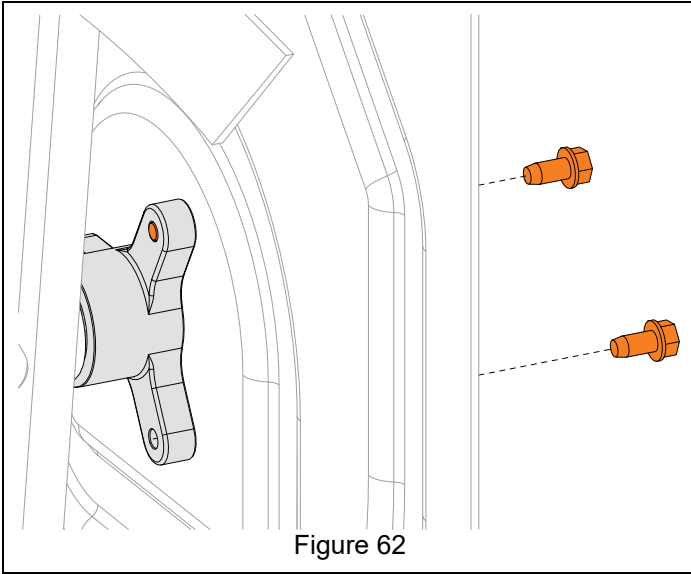

Figure 62
- Secure support bushings to auger housing with six tapping screws. See Figure 62.